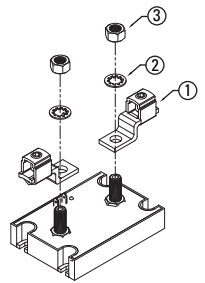

fig. 2 Lug Terminal Connections
- First install Lug Terminal (Item 1 on fig.2) followed by Washer Int. Tooth-Lock (Item 2 on fig.2) and finally Nut Hex (Item 3 on fig.2)